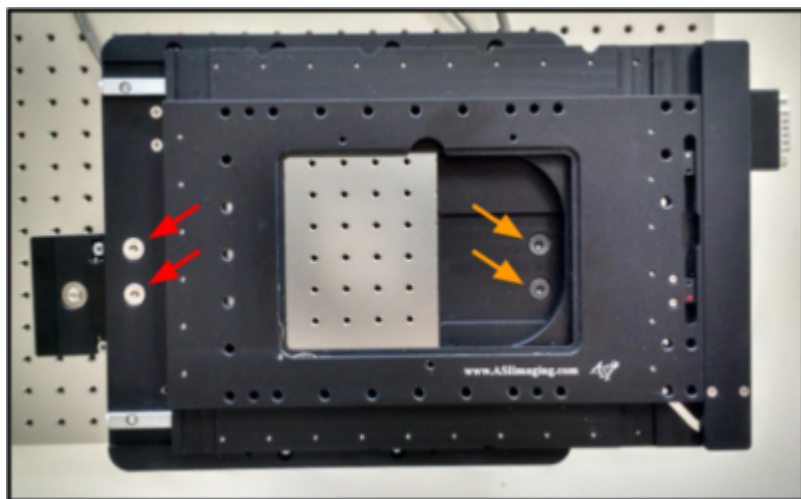

Figure 4: stage mounted using criss-cross pattern (red arrows indicate 16 mm screws, orange arrows indicate 14 mm screws)
1. Mount the bottom plate of the stage to the stilts, as in Figure 4. Work in a criss-cross pattern, gently tightening the screw farthest from the one you just tightened. Do the sequence once gently,